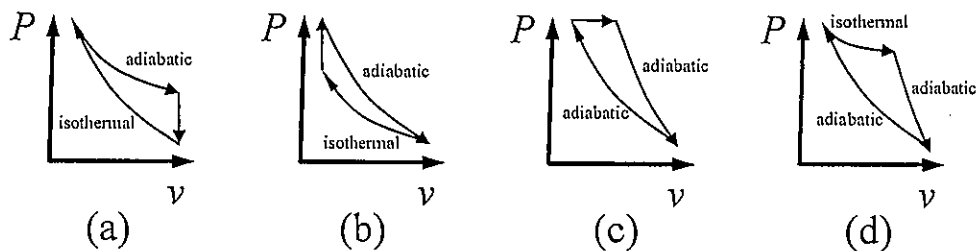

Figure 1-1
(1) Internal combustion engines are represented by various theoretical cycles. Select all theoretically impossible cycles in Figure 1-1. And explain the reason why they are impossible.